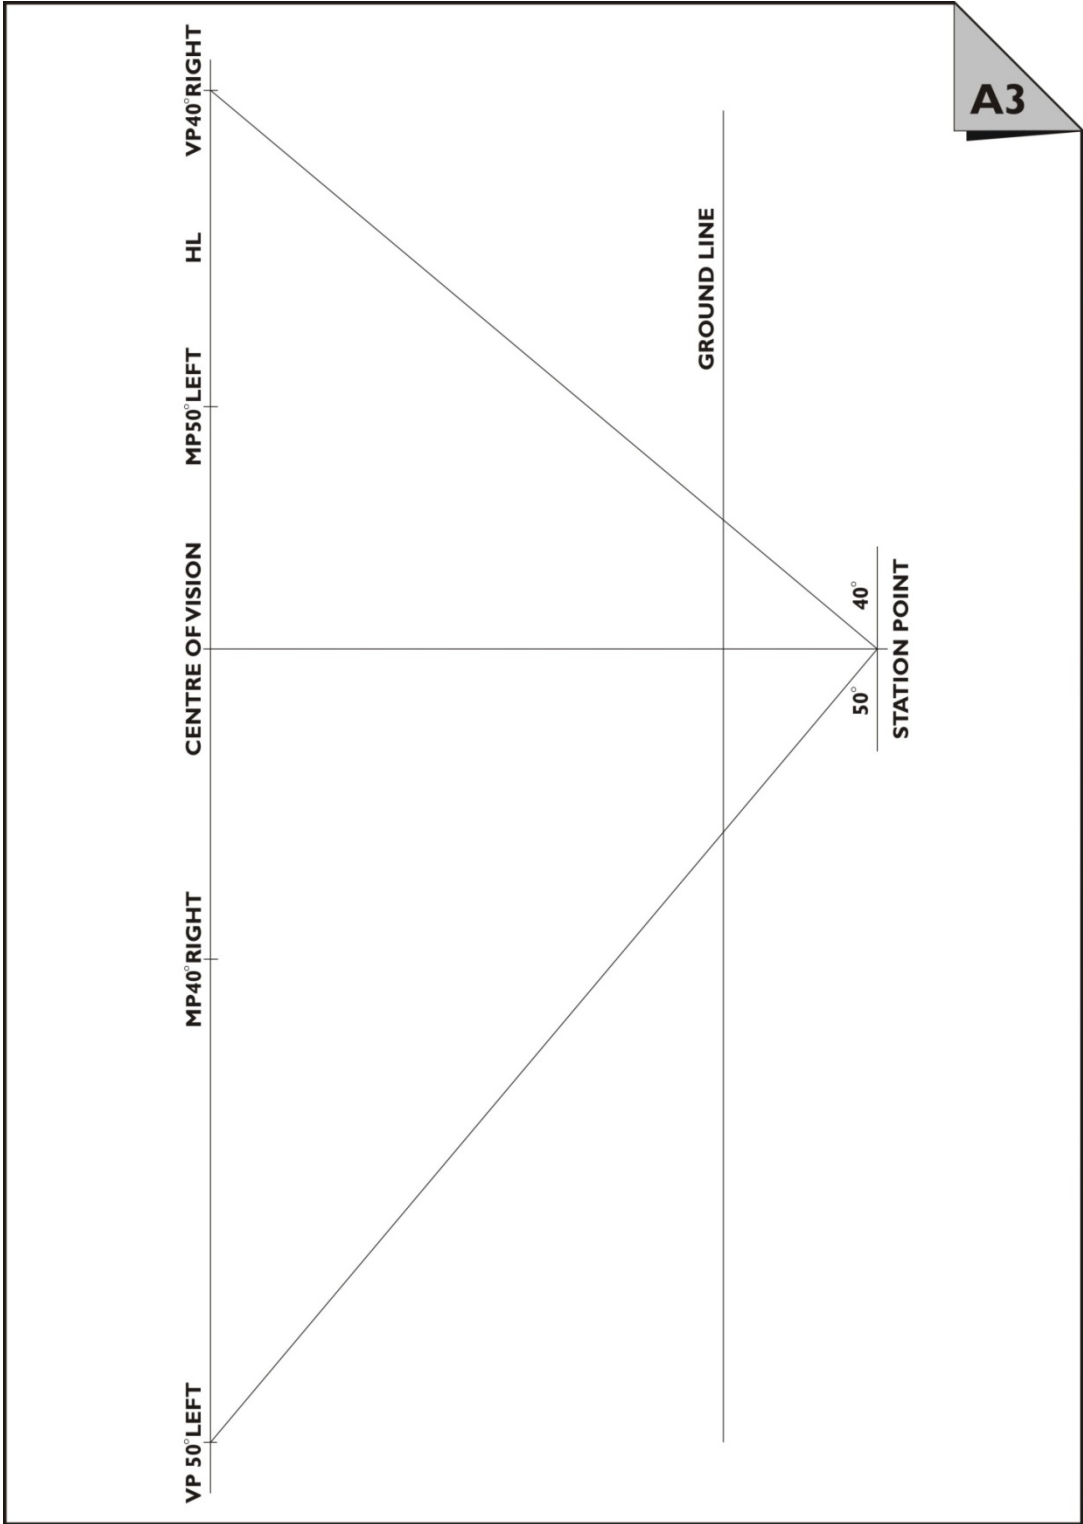

Figure 3.1 Two-point perspective measuring-point plan
2. Position the station point, the ground line and the horizon line as in the layout guide. Refer to Figure 3.1.
Figure 3.1 shows side and end views of a cube situated on a cube. All the measurements are given in millimetres.